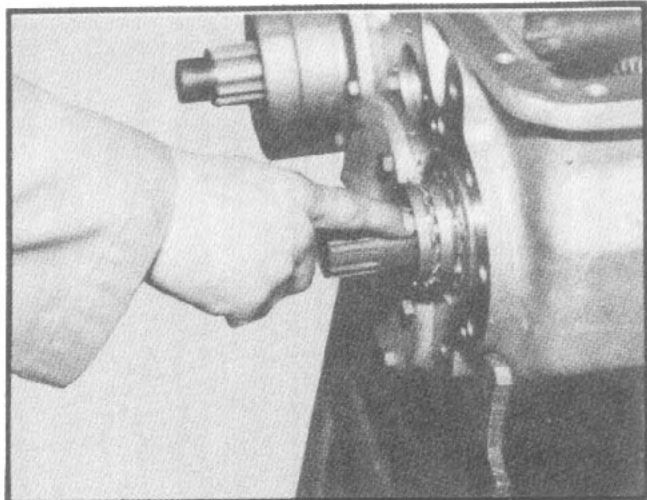

Fig. 24
9. Transfer cases equipped with bearing locknuts on the rear of the upper shaft: Assemble the bearing locknut and lockwasher to the rear of the upper shaft. Bend tabs of lockwasher over each bearing locknut (See fig. 24).